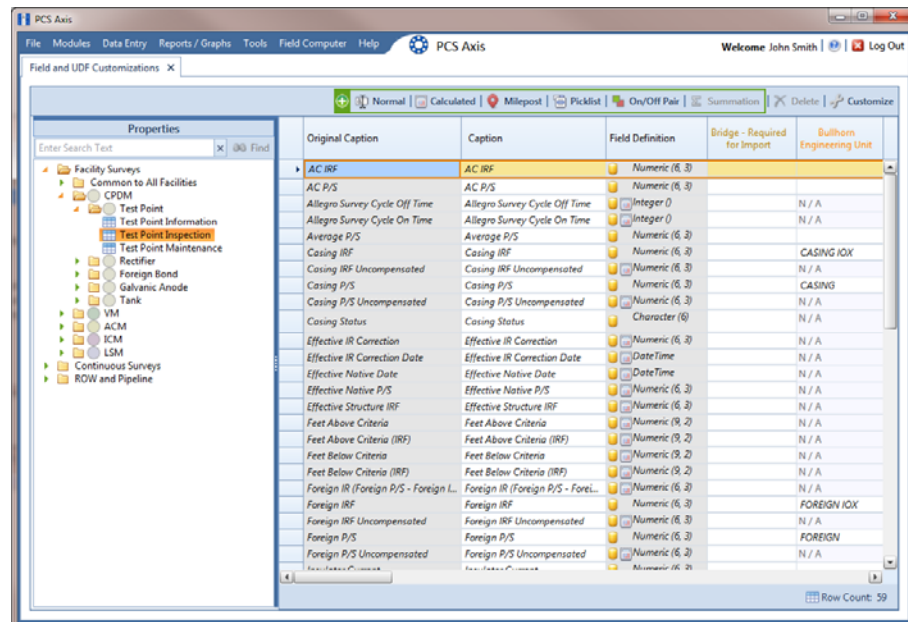

Figure 3-34. Field and UDF Customizations
- 3 Select an item in the *Properties* panel that includes the data entry grid you want to add a UDF. For example, double-click **Facility Surveys > CPDM > Test Point > Test Point Inspection** to display a grid with fields and property settings related to the *Test Point Inspection* data entry grid (Figure 3-34).
- Click a toggle button  to open a field category, such as *Test Point Inspection Fields* shown in Figure 3-34, page 77. Double-click a field in the list of fields to add it in the *Expression* field. Define the UDF using the operator and functions buttons.